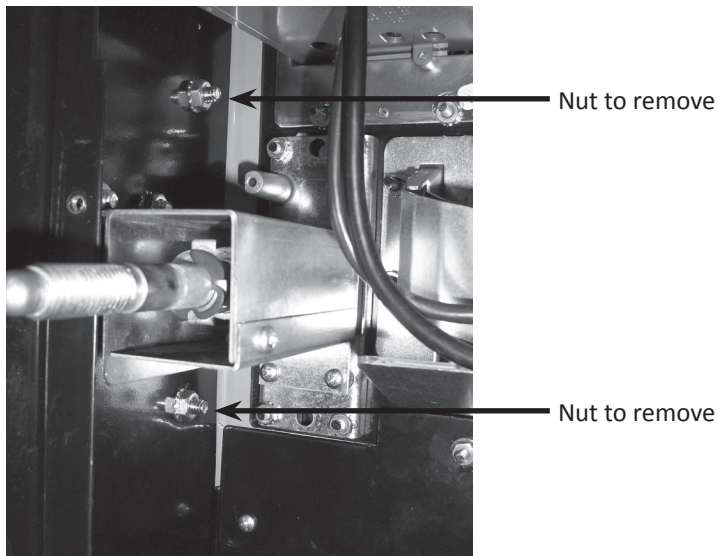

Figure 4.
5. Using a 7/16" (12 mm) socket, remove the nuts shown in Figure 3. These two nuts secure the carriage bolts pointed out in Figure 4. Remove the carriage bolts from the door.
Remove the two nuts that secure the carriage bolts pointed out in Figure 4. (NOTE: Some parts are removed for illustration clarity.)